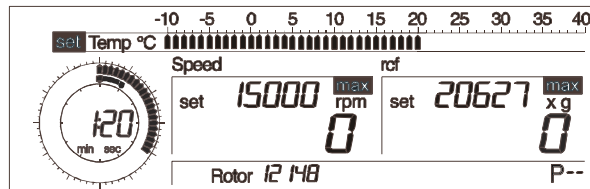

Fig. 5.16:
- Turn the left rotary knob until “set” appears in the display field in front of the parameter "Temp" (Fig. 5.16).